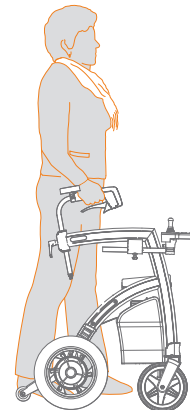

Figure 28: Walk upright close to the rollator.
- h. A correct height adjustment allows for an upright walking position (**Figure 28**).